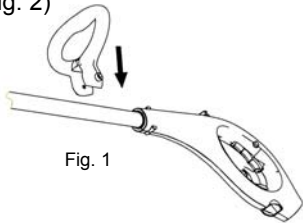

Fig. 1
3. Firmly push the handle over the shaft. (Fig. 1)